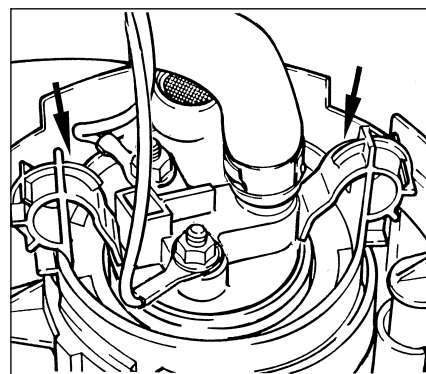

Abb. 6
- The Pierburg pump is approximately 2 mm longer than the standard pump. As a result, the holders (arrows, fig. 6) don't lock into position automatically during installation. Correct with a screw driver as necessary.